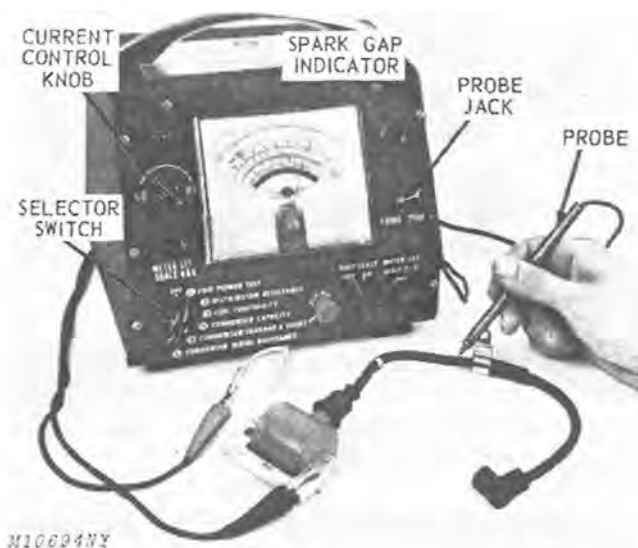

Fig. 14-Ignition Coil Insulation Test
2. Plug the insulation test probe, Fig. 14 into the probe test jack of the analyzer.
3. Turn selector switch to position No. 1 Coil Power Test, and turn current control knob until maximum current reading is obtained, Fig. 14.